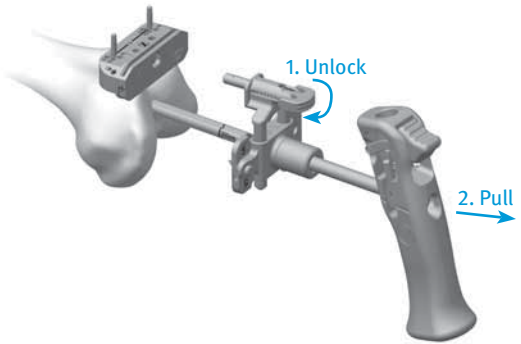

Fig. 114
- Flip the lock lever on the Fixed Resection Tower to the unlocked, or "in-line", position and pull the handle to remove the IM Rod and assembled distal resection instrumentation leaving only the Cut Guide attached to the femur (Fig. 114).